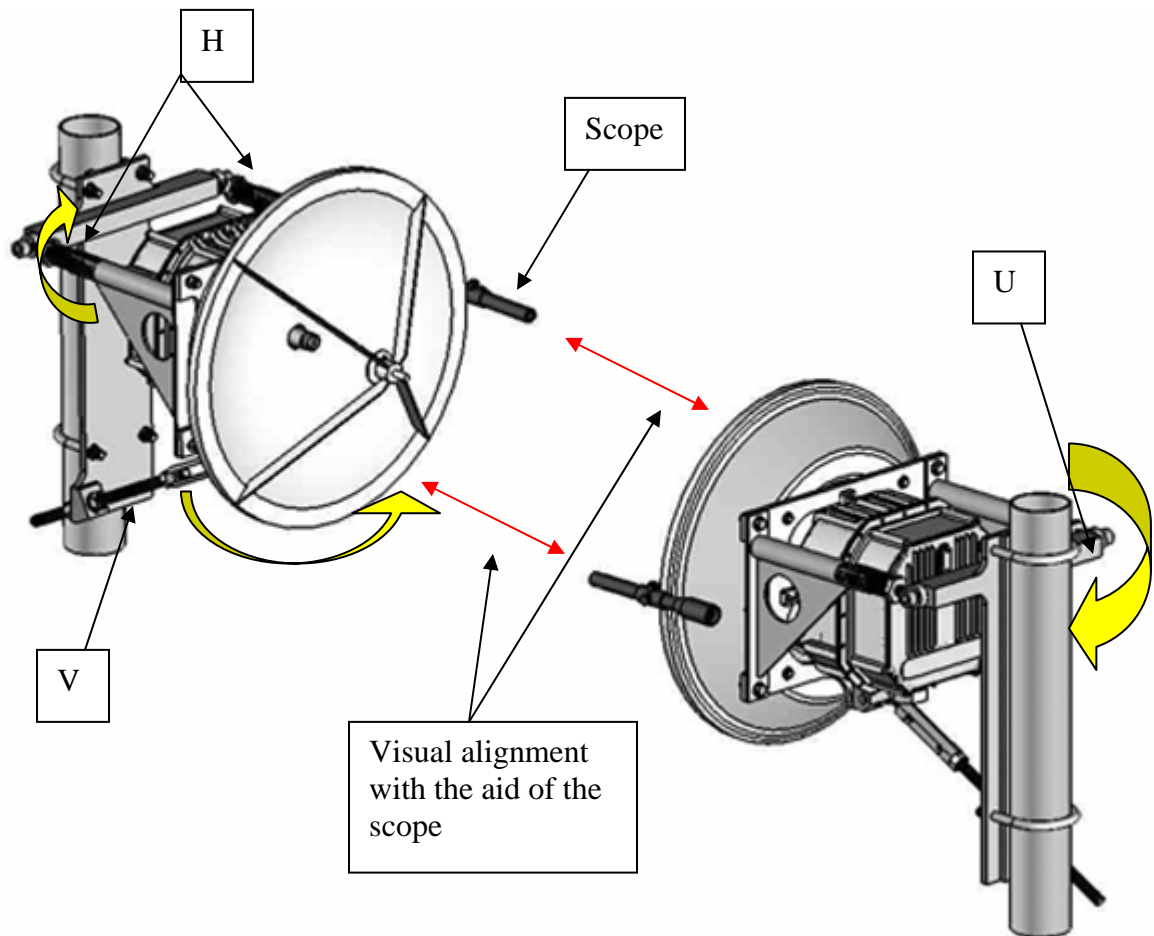

Figure 16. Alignment Technique.
2.9 Alignment Techniques (see Figure 16)
After connecting a laptop PC to the RS-232 port on the radio, press 'ENTER' on the PC keyboard and the screen in Figure 16 will appear showing the Main Menu. From this menu only two of the options will be available to the end user. They are option I and S. These two options will enable the following to be performed by the end user: